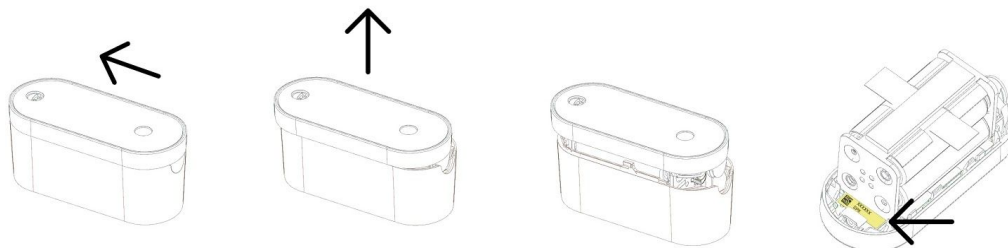

Figure 4. How to open the “main unit” and find the label
Each main unit is unique with a reserved MAC address which can be found on a label. The label itself is located inside the main unit. To access it, open up the main unit by pressing a screwdriver head in to the latch and pushing it slightly upwards. Slide the top off and lift from the case. The label is located beside the battery pack on one side. Seen in Figure 4 marked yellow.
6. Verify the MAC address given from the app, is the same as on the label of the unit (to find the unit see Figure 4), by pressing “yes”. Otherwise, press no and repeat step 1-3.